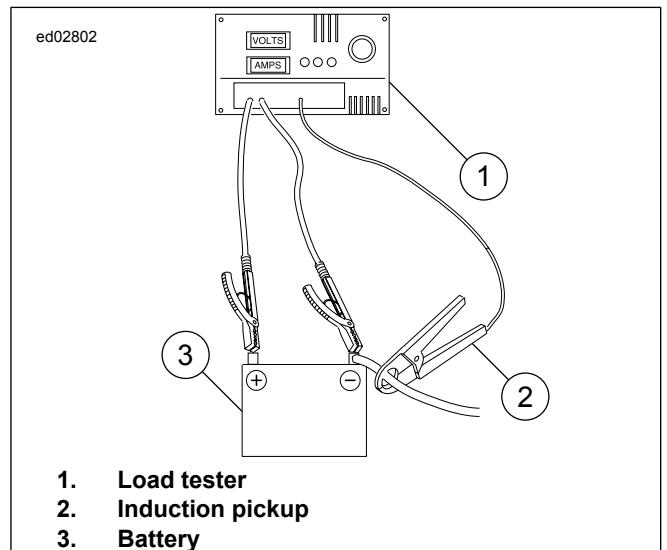

Figure 3-15. Check Current Draw (Ignition On)
- See Figure 3-15. Connect load tester.